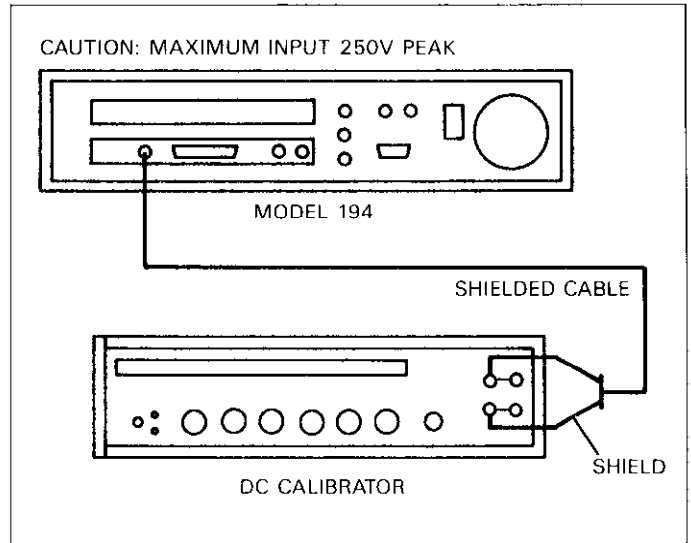

Figure 7-4. Calibration Connections
1. Connect the DC calibrator to the VOLTAGE INPUT jack of the A/D module being calibrated, as shown in Figure 7-4.